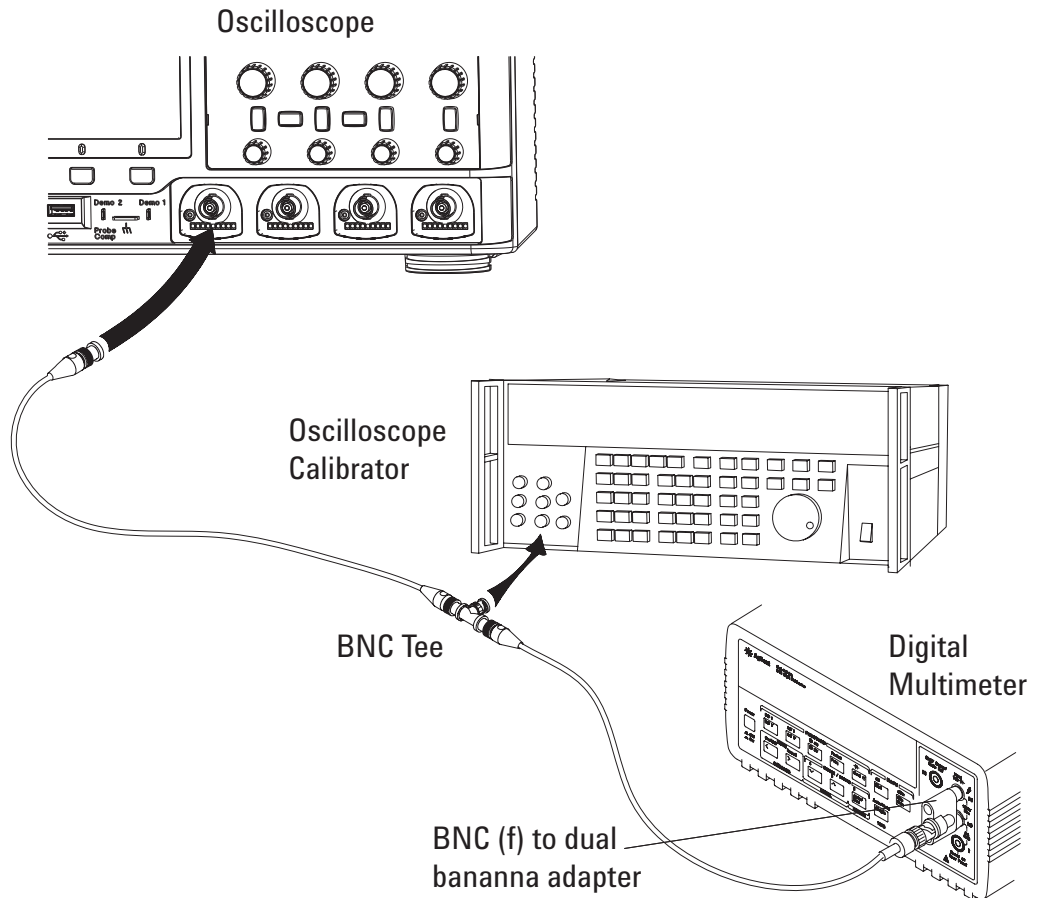

Figure 5 Setting up Equipment for Dual Cursor Accuracy Test
- 5 Use the BNC tee and cables to connect the oscilloscope calibrator /power supply to both the oscilloscope and the multimeter (see **Figure 5**).